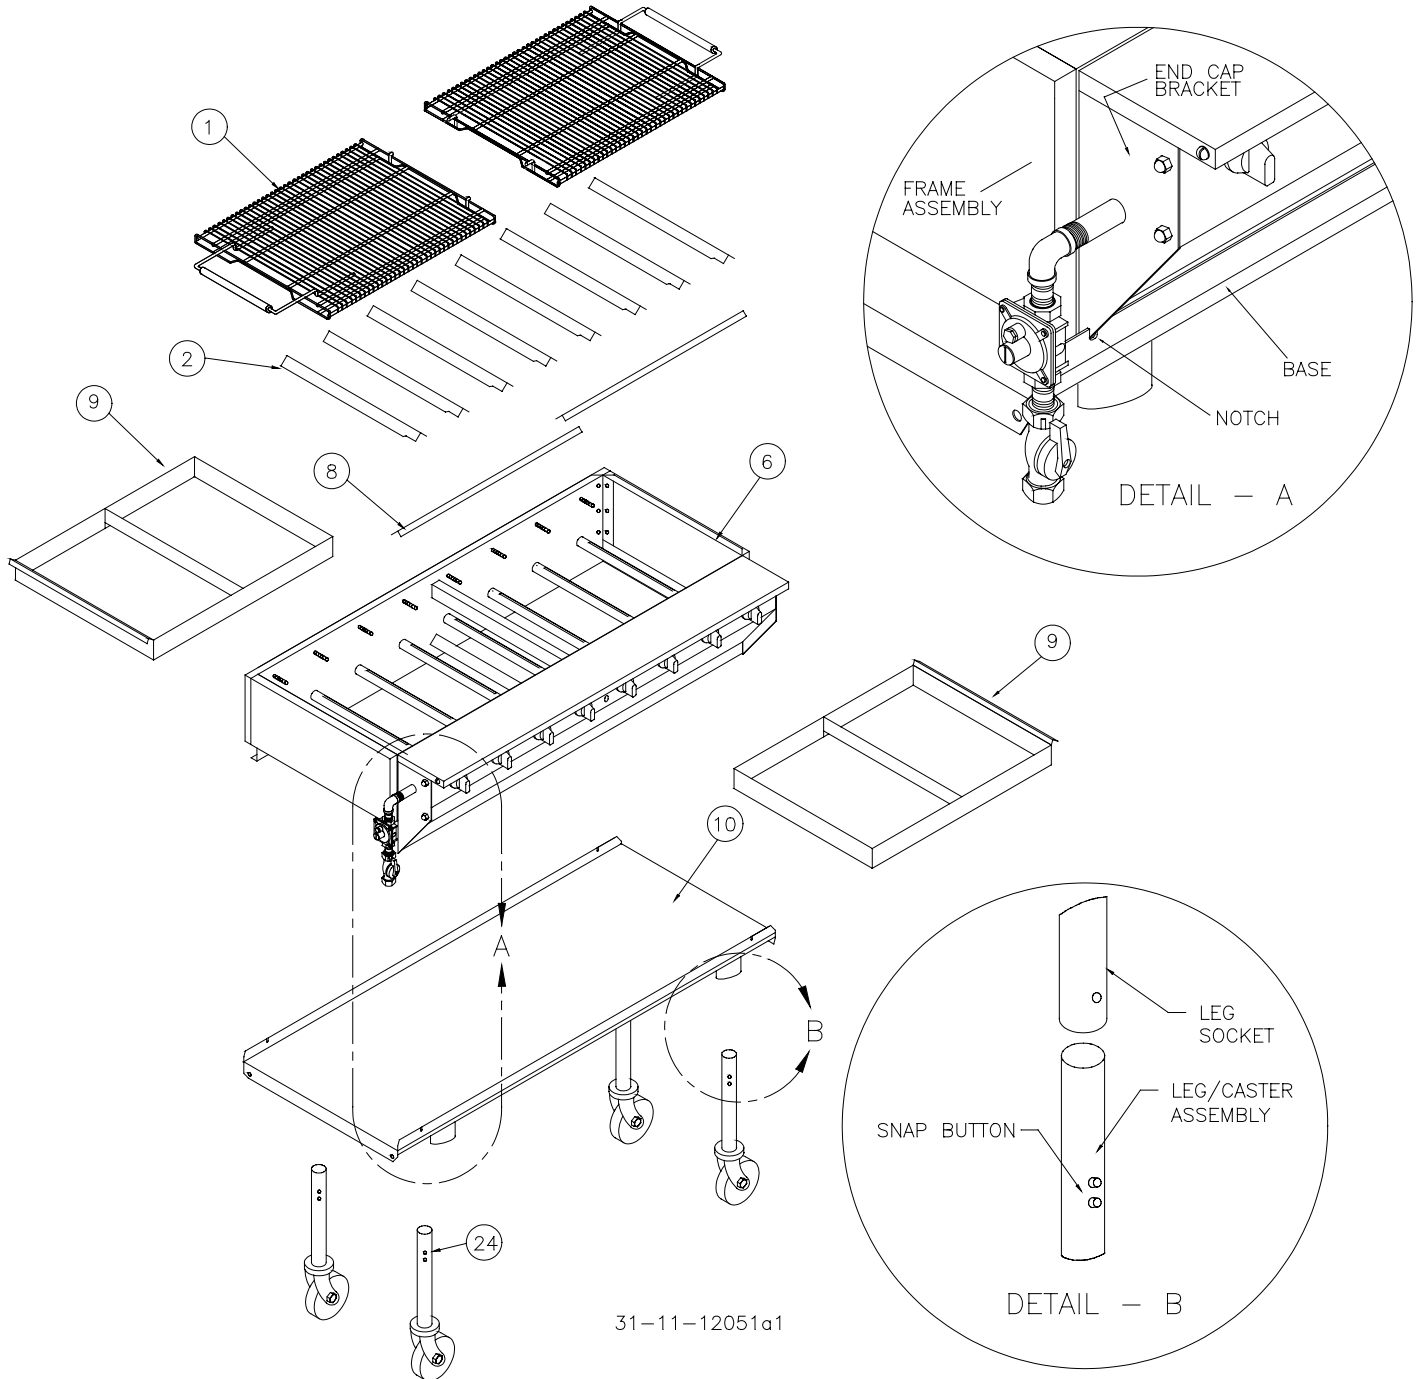

Figure 1
These unassembled parts should be included in your charbroiler package, (Figure 1, Page 5):
- G. Lift base (10) from carton and place upside down on ground.
- H. To install the leg & caster assemblies, insert the assemblies (24) into the leg sockets on the base (10) and depress “snap button” on leg. The leg will slide into the socket and will lock into the correct location.
- I. Flip the base over, with the leg & caster assemblies installed, into the upright position. Place the frame assembly (6) on base (10) with the shelf support brackets located in the notches on the front base assembly.
- K. Place runner tube cover(s) (8) on their brackets to cover the runner tube(s).
- L. Place the radiants (2) on their front and rear support pins over each burner.
- M. Slide water tub(s) (9) into frame assembly (6).
- N. Place cooking grid(s) (1) into frame assembly (6).
- Install the main valve and regulator piping assembly (C in Figure 1).